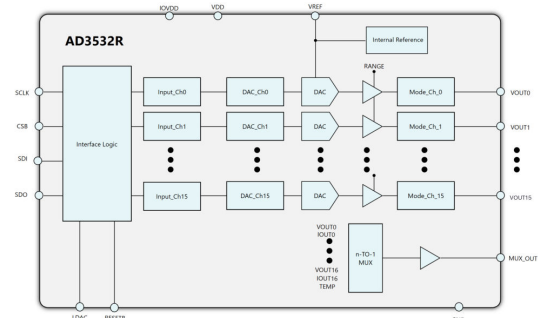

Figure 3. Chip Block Diagram of the AD3532R
4. Double-click the AD3532R chip to access the chip block diagram. This view provides a basic representation of the functionality of the board. The main functions of the board are labeled in Figure 3.